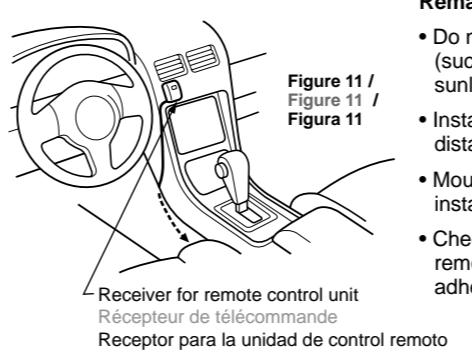

Figure 11 / Figure 11 / Figura 11
- Mount the receiver for remote control unit to the installing surface inside the car. (Figure 11)